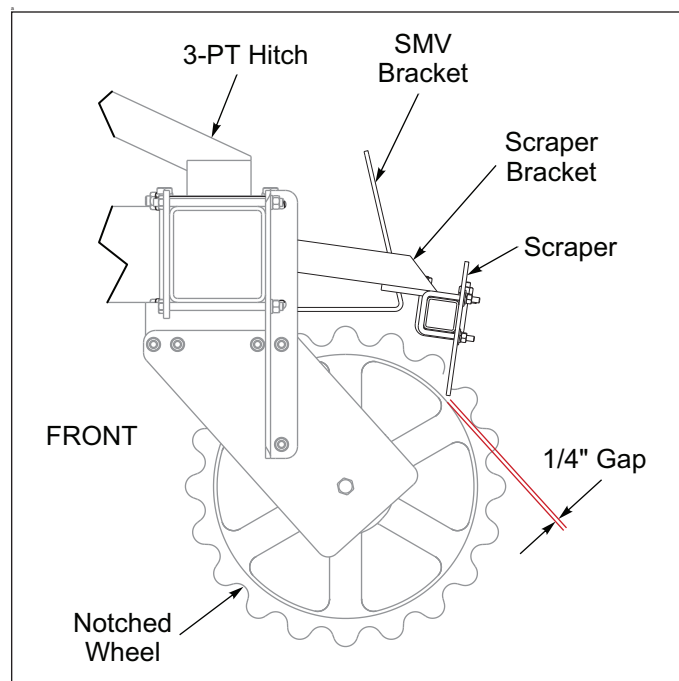

Figure 3-2: Scraper Adjustment
4. Attach the Center Scraper to the Scraper Tube at the center of the machine where the two rollers come together with 3/8-16 U-Bolts, Flat Washers, Lock Washers, and Nuts. Adjust the Center Scraper so that there is a 1/4" gap between the Scraper and the Notched Wheels. **See Figure 3-2.**
3. Adjust Scrapers as needed to center the Scrapers between the Notched Wheels along with a 1/4" gap between the Scraper and Notched Wheels. **See Figure 3-2.**